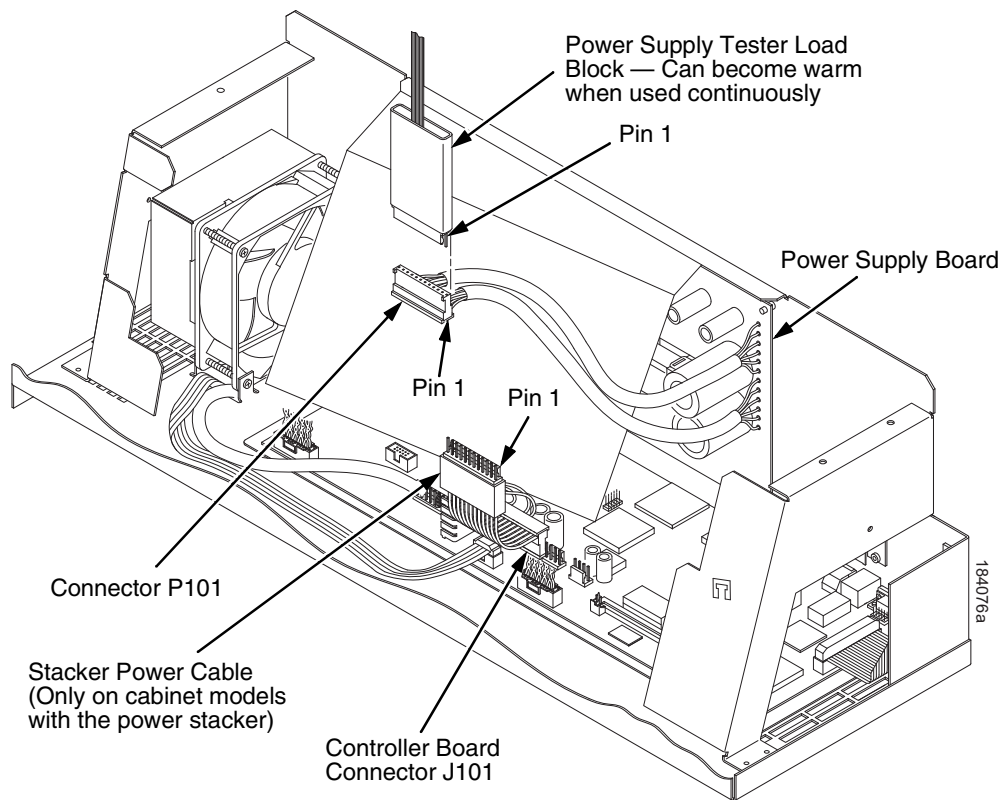

Figure 20. Connecting the Power Supply Tester
4. Disconnect power supply cable connector P101 from either the power stacker power cable or connector J101 on the controller board. (Figure 20.)
5. Plug power supply connector P101 into the 12-pin connector on the power supply tester Load Block, as shown in Figure 20. Note the position of Pin 1 relative to the Load Block.
23. Unplug power supply connector P101 from the 12-pin connector on the power supply tester Load Block. (Figure 20.)
24. Connect power supply cable connector P101 to either the power stacker power cable or connector J101 on the controller board. (Figure 20.)